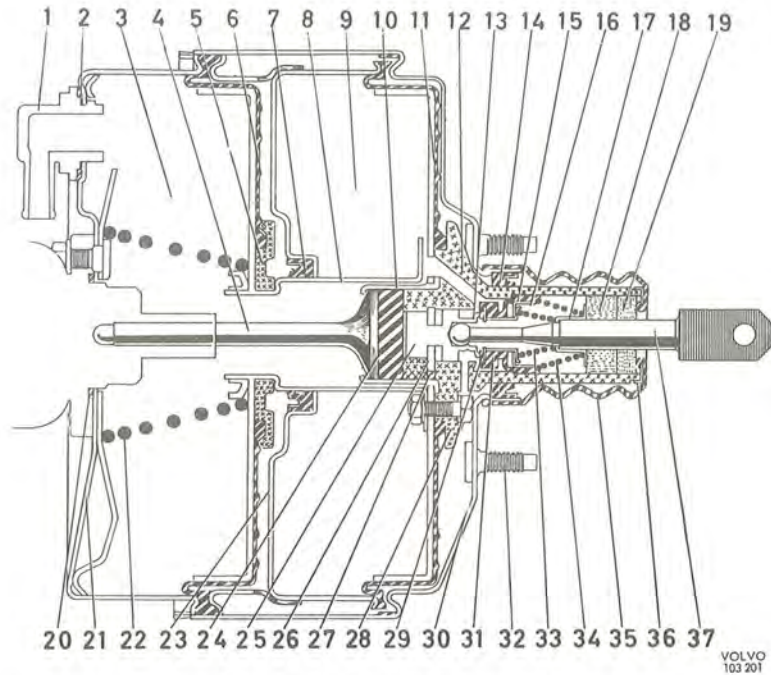

Fig. 5-70. Servo cylinder
This is a mechanical tandem-type servo device located between the brake pedal and the master cylinder, see Fig. 5-6. Due to the servo cylinder, which is assisted by vacuum from the engine induction manifold, less pedal pressure is required when braking. The construction as well as the designation and location of the parts are shown in Fig. 5-70. The servo cylinder functions as follows.
5. Lift up the brake pedal. Remove the rubber cover (35, Fig. 5-70).
1. Check that the rubber cover (35, Fig. 5-70) is pressed down properly at the protective washer for the cleaner. Secure the fork to the link arm. Push in the servo cylinder so that the attaching bolts come into position.